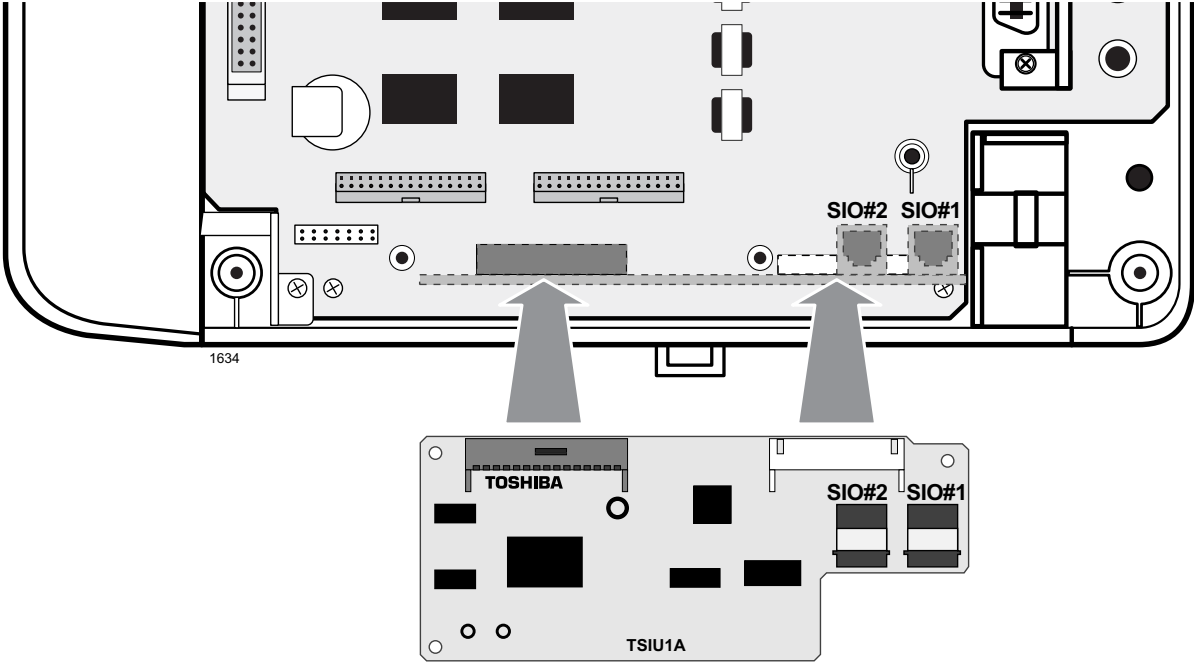

Figure 3-23 Serial Interface Board (TSIU) Installation
The TSIU PCB enables the DK40i system to connect to various hardware devices. It does not have an internal modem and does not support IMDU. (See Figure 3-23.)
- ▶ See Figure 3-23 for installation.